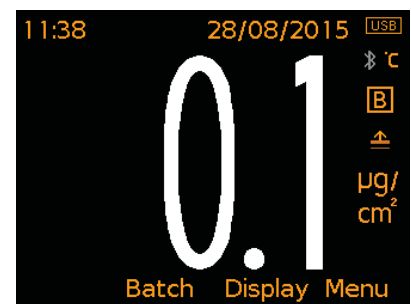

Fig. 1: Readings x1
- **Readings x1** (Fig. 1); The reading value is displayed for the whole sample.